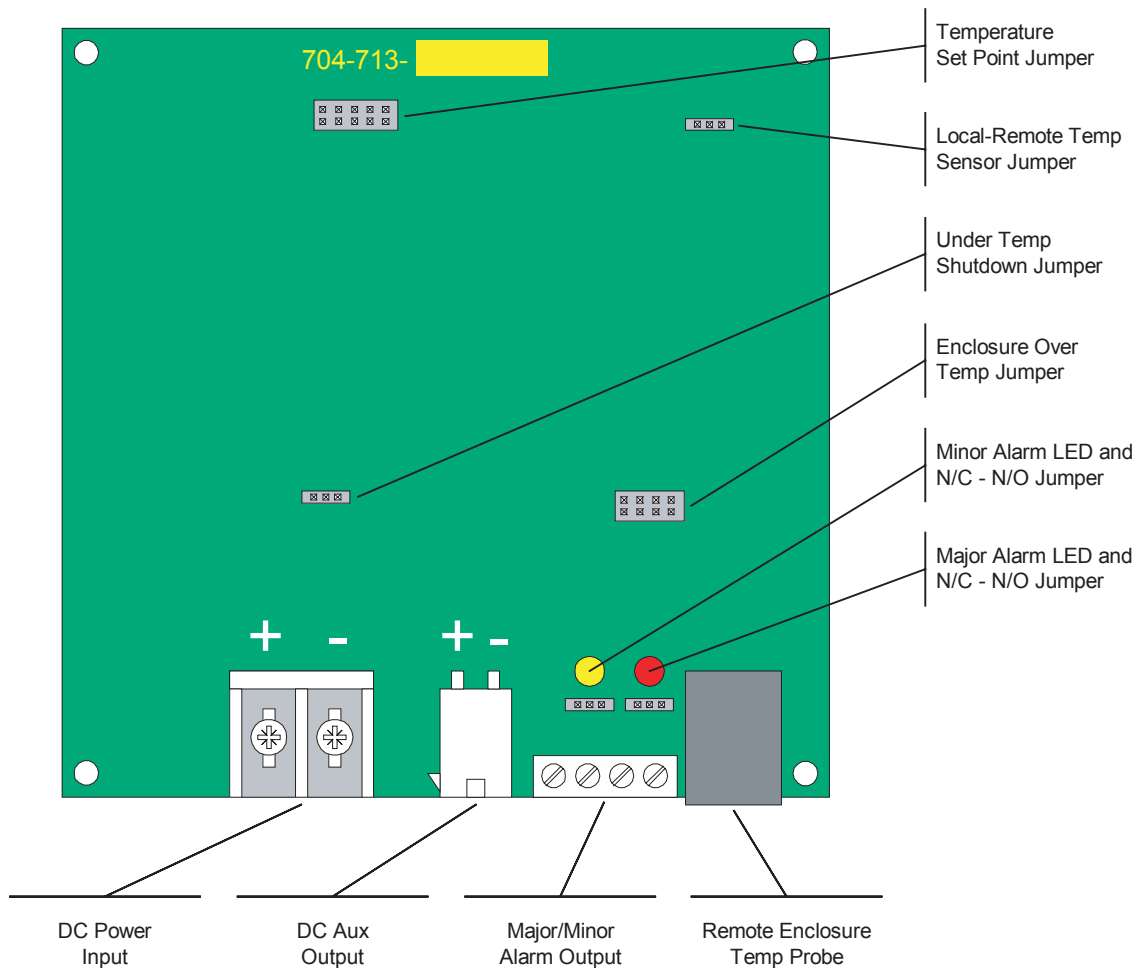

Fig. 2-2, Temperature Control Board
2. Disconnect input and alarm wires from the control board (see Fig. 2-2).
See Fig. 2-2 for jumper locations.